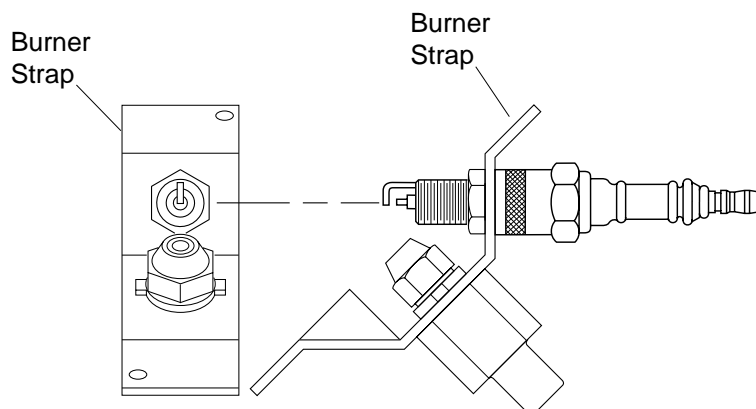

Figure 13 - Spark Plug Rotation, 30,000 Btu/Hr Model Only
10. Replace burner strap onto spark plug. Rotate burner strap to position spark plug electrodes (see Figure 13).